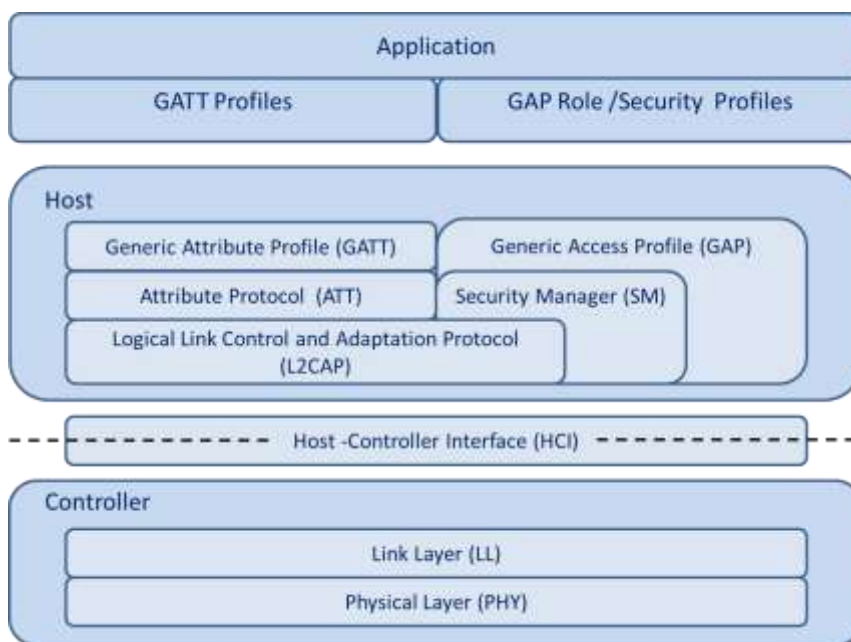

Figure 3: Bluetooth low energy Protocol Stack Layers
A single-mode Bluetooth low energy device is from an architecture point of view similar to all Bluetooth devices in that it is divided into three blocks: controller, host, and application. These basic building blocks each consist of several layers which are tightly integrated in the so-called Protocol Stack as shown in Figure 3:
The Host block consists of a set of layers, each with specific role and functionality, which communicate with each other to make the overall block operate. As shown in Figure 3 these layers are the Logical Link Control and Adaptation Protocol (L2CAP), the Attribute Protocol (ATT), the Security Manager (SM) and finally the Generic Attribute Profile (GATT) and Generic Access Profile (GAP).